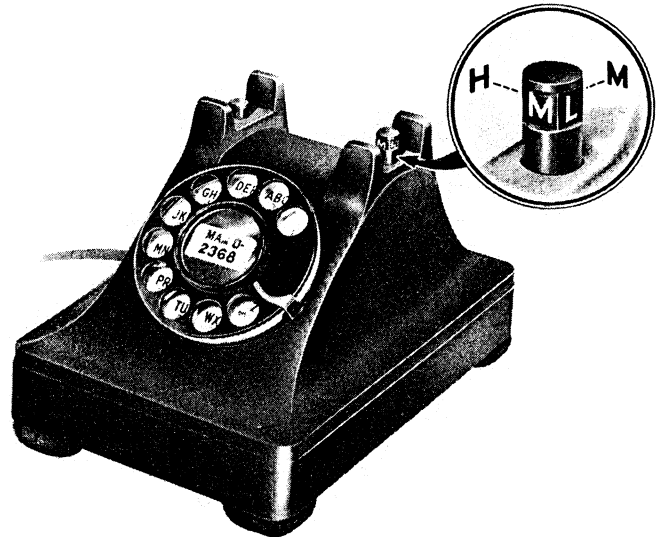

Fig. 4 - Right-hand Plunger
- The right-hand plunger also serves as an on-off and volume control switch (see Fig. 4).